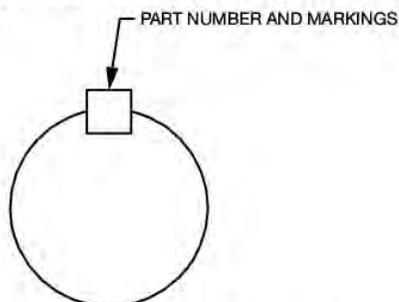

Figure 8 - Key Marking
**NOTE:** In most cases the keys that are supplied with the bushing kit are NOT square keys and the orientation of the key is important. Install the key so that it fits snugly in the width of the keyseat. The keys are marked with a part number and some keys are also etched with "THIS SIDE UP"—these markings should be showing on the top of the key when it is installed in the shaft keyseat. See Figure 8 below.